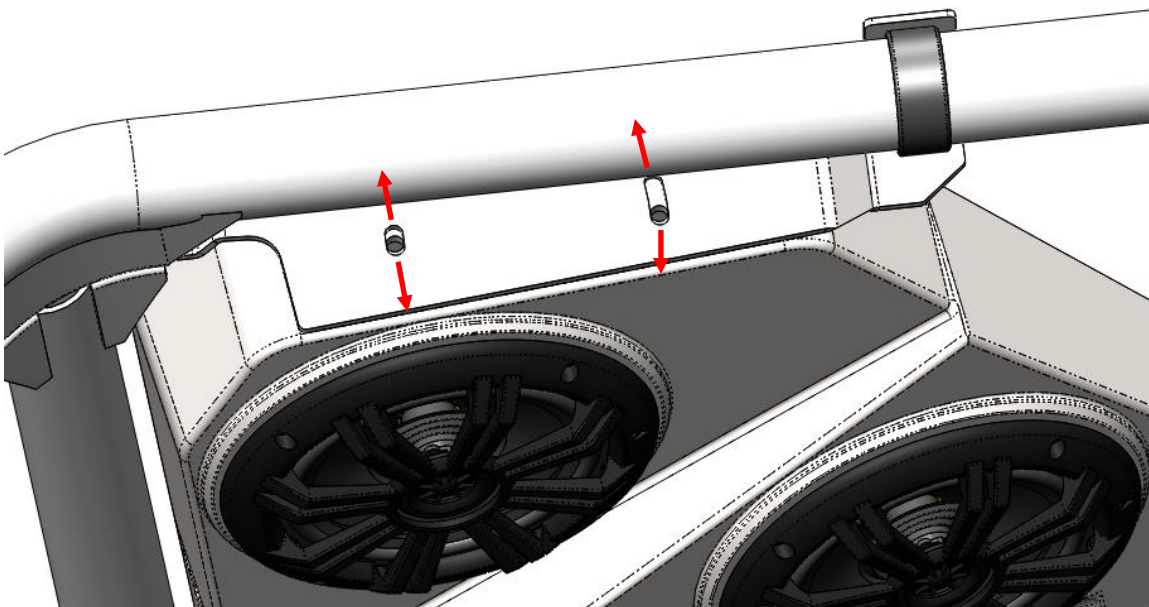

Figure 17: Adjustable positioning of the Audio Mini.
14. Tighten the 4 mounting bracket bolts after achieving the desired viewing position relative to the roof or roll cage. A slot in the front hole allows up-down movement, while the rear hole allows the *Audio Mini* to pivot to achieve your desired viewing position. See Figure 17.